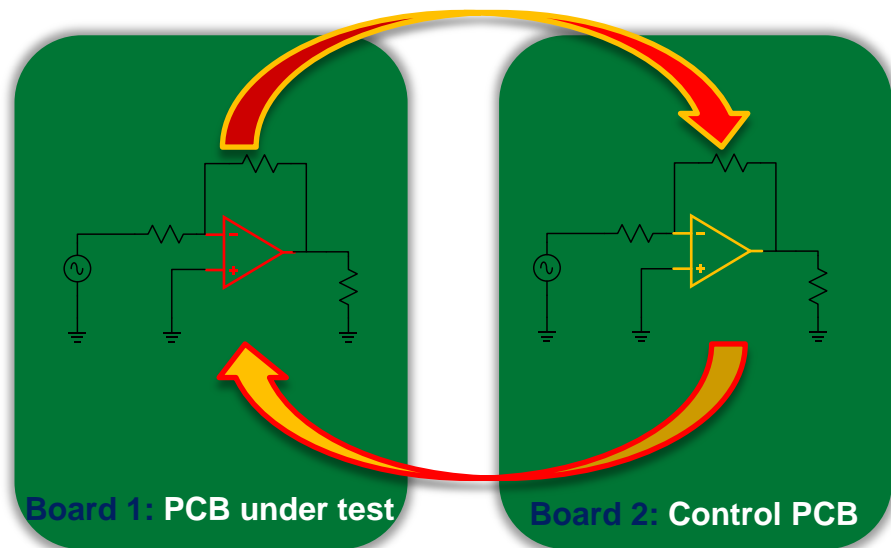

Figure 6-1: A-B-A swap diagram: Unit **A** | Unit **B**. Units must be carefully de-soldered and re-soldered. Take care to prevent thermal damage to the units.
Slide 6 provides a detailed explanation of the A-B-A swap methodology. The process includes 2 printed circuit boards and two integrated circuits of interest; the device under test and a control unit. The first step of the process is to record the electrical characteristics of both systems. Recording output voltage or voltage offset of a system is a good example. An inverting circuit is depicted in figure 6-1. Once the data is successfully recorded, the A-B-A swap process can begin. Carefully de-solder and remove the suspect device (A) from the non-conforming application PCB. Device (B) should be removed from the control PCB as well. Replace the suspect TI part (A) with a known good TI part (B) and check if the original failing board is now working correctly. Be sure to record the data for future records. Mount the suspect TI part (A) to a known good board and see if the issue is observed again. Finally, the last step will be to return device A and B to the original PCBs the units were mounted on. This final step is to confirm if the original electrical results of device A and the PCB under test remain unchanged. If device A and the PCB under test now function as expected the A-B-A swap likely fixed an assembly defect such as flux contamination or cold solder joints. Remember, it is extremely important to ensure care is taken during the de-soldering and re-soldering process.